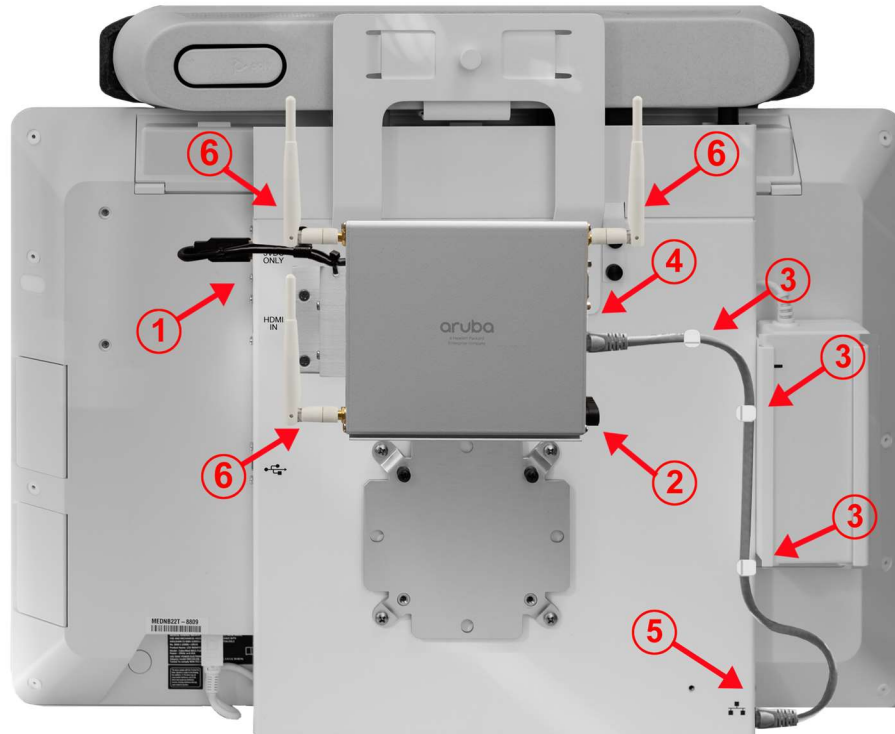

Figure 28. Connecting Aruba Wireless Bridge to eCLINiC System
3. Attach the self-adhesive cable clamps to the rear of the eCLINiC chassis in a logical pattern to allow cable attachment from the network connector on the bridge to the network connector on the eCLINiC as shown in figure 28 above
5. Connect the other end of the supplied RJ45 male to male cable to the network connector on the eCLINiC, and route the cable through the previously attached cable clamps as shown in figure 28 above
6. Screw in the 3 antennas supplied with the Aruba bridge and orientate them in an upright position, as shown in figure 28 above